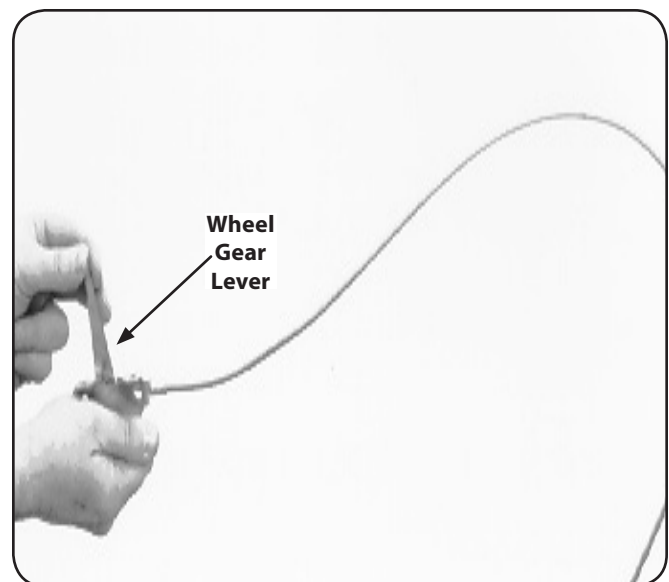

Figure 3-4
9. To remove the tiller from its shipping platform, first carefully unwrap the wheel gear cable with the attached lever from around the chassis. Move the Wheel Gear Lever to the DISENGAGE position, this allows the wheels to rotate freely. See Fig. 3-4. Use the handlebars to roll the tiller off the platform.